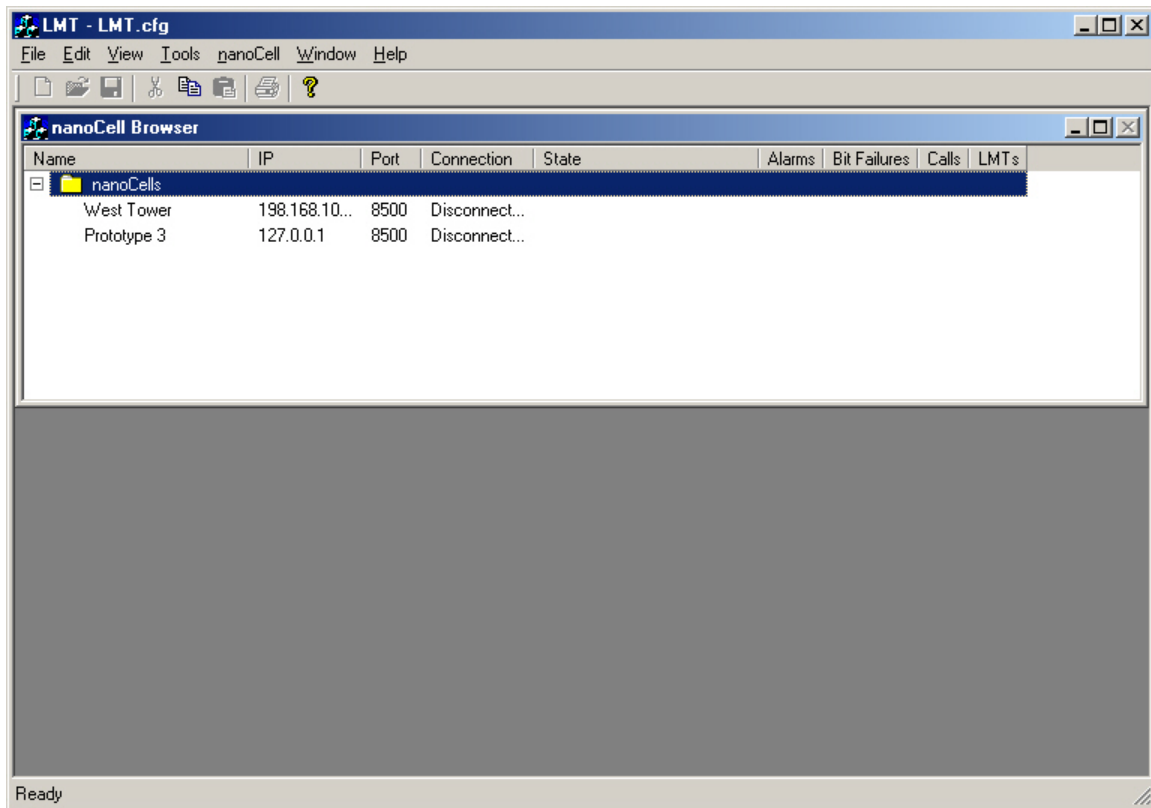

Figure 9. LMT Opening Screen
- d. The LMT software will launch and will display the screen as shown in Figure 9.